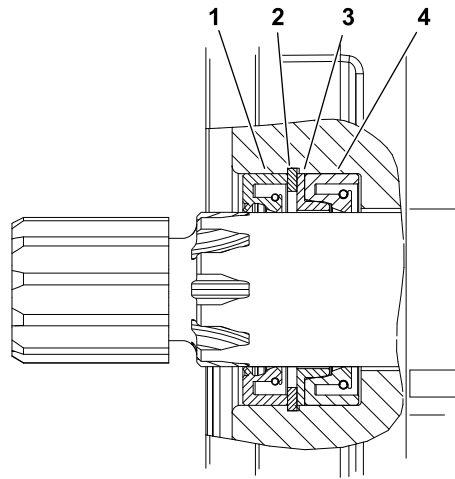

Figure 86
11. Carefully remove the dust seal, retaining ring, backup washer and shaft seal from the front flange (Figure 86). Discard removed seals.
3. Inspect drive gears and idler gears for the following (Figure 86):
2. Install new seals into front flange (Figure 86):